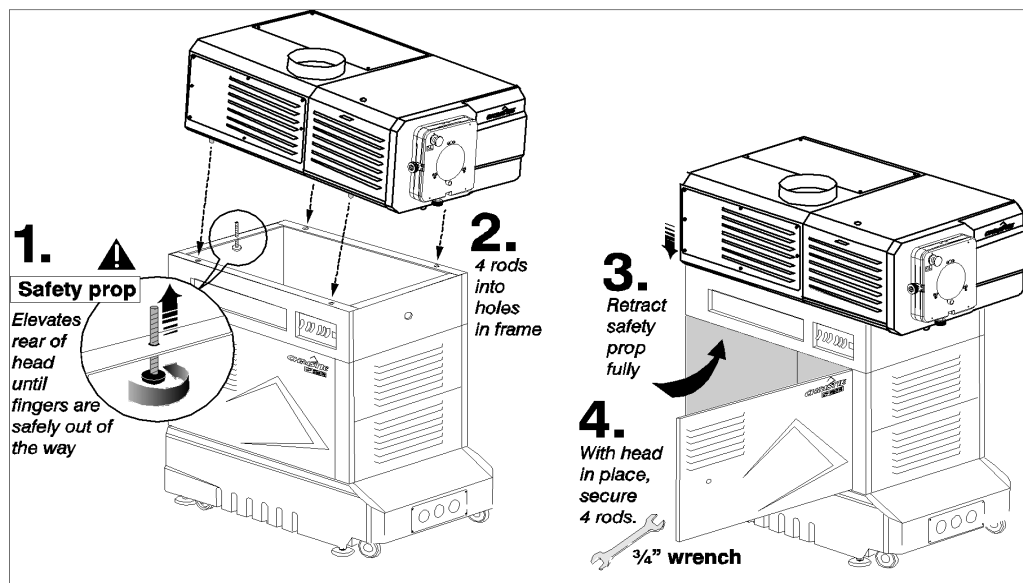

Figure 2-1 Assembling Projection Head with Pedestal
- Inside the pedestal, at the rear of the top frame, turn the knob to extend the safety prop above the pedestal frame. This step will then elevate the rear of the projection head until fingers are safely out of the way. See **Figure 2-1 Step 1**.